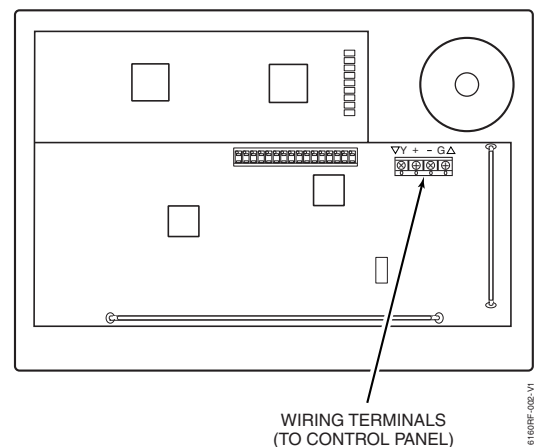

Figure 2 - 6160RF Wiring Details
4. Connect the power and data wires from the control panel to the terminals on the 6160RF as indicated in Figure 2 and Table 1.